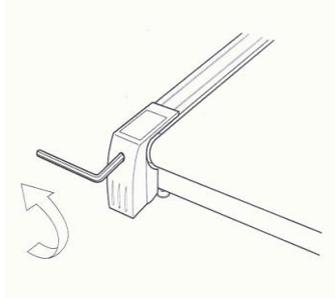

Figure 2
- 2. Running belt has shifted to the right side. (Figure 2 - Adjusting the belt to the left side)**